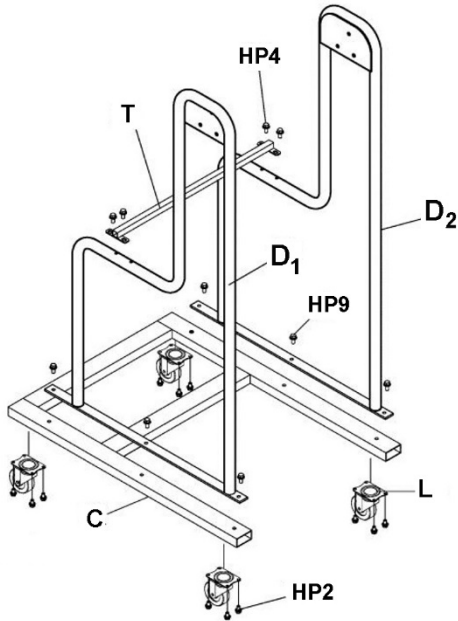

Figure 3
1. Install four casters (L) to base (C) with pan head screws (HP2). See Figure 3.
2. Install left and right stands (D1, D2) to base (C) with flange head screws (HP9).
3. Install stand support (T) to stands with flange head screws (HP4).